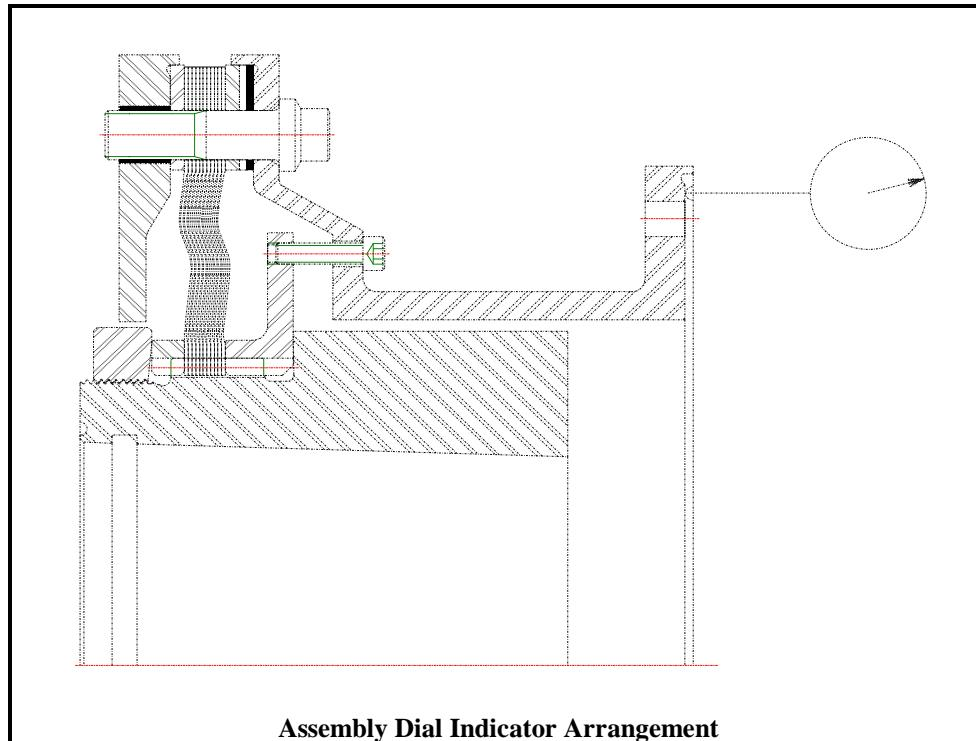

Figure 5-1
5.2.3 Tighten the shipping hardware evenly to draw-up the pack adapter on the overspeed trip end only to the dimensions specified on the Ameridrives Sales Drawing. The use of two (2) dial indicators at 180° apart (see Figure 5-1) or determining the number of screw turns required based on thread pitch (see Table 5-1) are common ways of measuring draw-up.